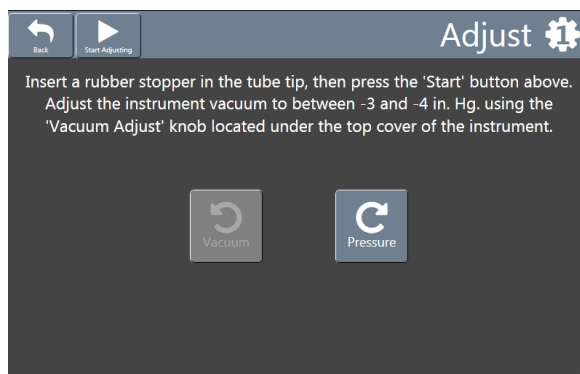

Figure 12 — Pressure/vacuum Adjustment Screen
3. Click **Adjust Pressure/Vacuum**. Follow the instructions on the screen. See Figure 12.